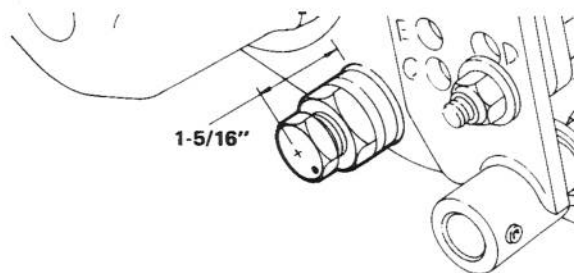

Figure 14
7. Mount the left side of the bedbar to the side plate with the eccentric pivot bolt, jam nut and plastic washer. Position washer between bedbar and side plate. Thread the pivot bolt into bedbar until the distance from top of pivot bolt and side plate is $1\frac{5}{16}$ inch with identification dot positioned to rear. Do not tighten jam nut at this time (Fig. 14).